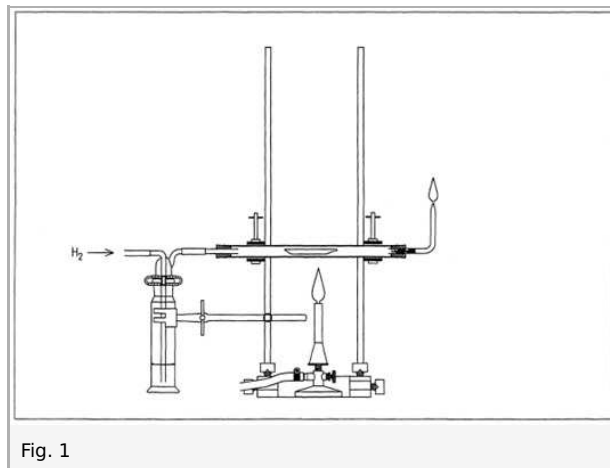

Fig. 1
- Fill some iron(III) oxide into a porcelain boat and push it into the combustion tube that is secured horizontally on a support stand as shown in Fig. 1.